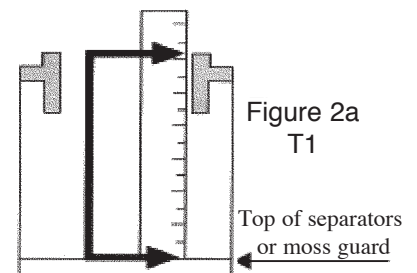

Figure 2a
- d) **Float Clearance:** Adequate clearance (T1), per Figure 2a/b/c is required for proper action.